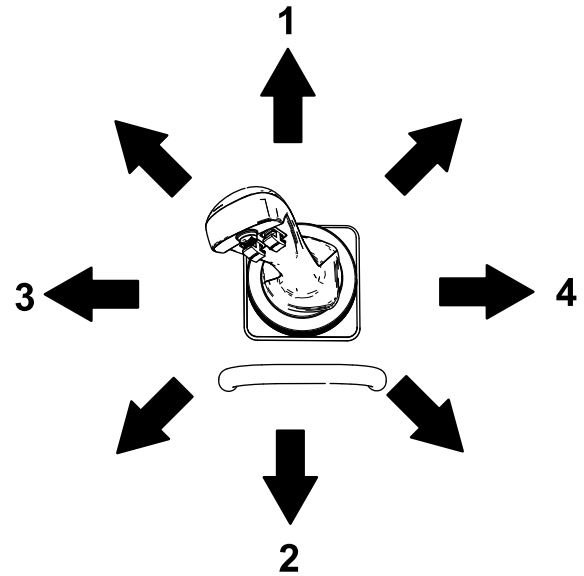

Figure 12
- To tilt the attachment forward, slowly move the lever to the right (Figure 12).
- To tilt the attachment rearward, slowly move the lever to the left (Figure 12).
- To lower the loader arms, slowly move the lever forward (Figure 12).
- To raise the loader arms, slowly move the lever rearward (Figure 12).